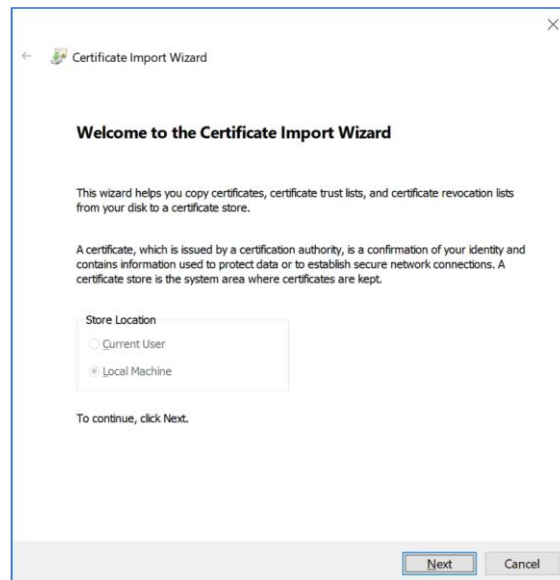

Figure 332: Windows Certificate Import Wizard
- Click on the Import... button to start the Certificate Import Wizard. The Wizard is shown in Figure 332.